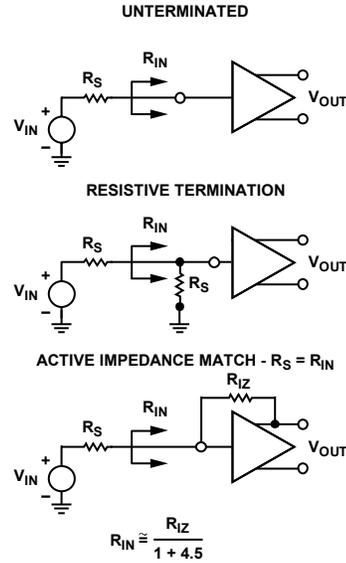
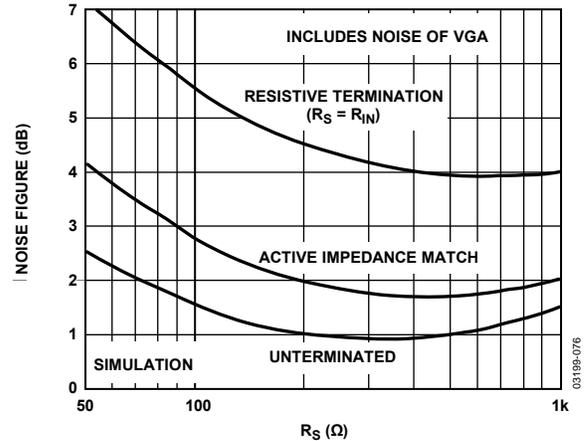
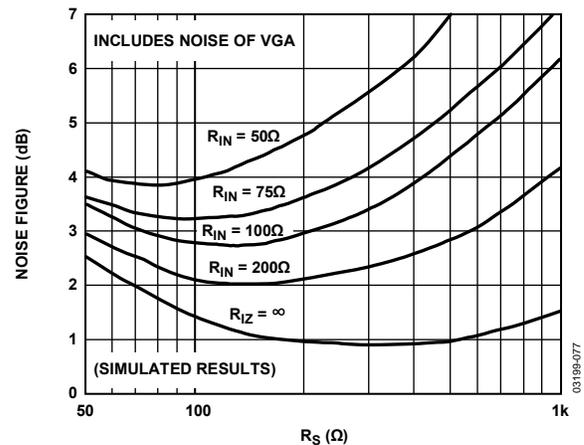

Figure 75. Input Configurations
Figure 76. Noise Figure vs.  $R_S$  for Resistive, Active Match, and Unterminated Inputs
Figure 77. Noise Figure vs.  $R_S$  for Various Fixed Values of  $R_{IN}$ , Actively Matched
The input-referred voltage noise sets an important limit on system performance. The short-circuit input voltage noise of the LNA is  $0.74\text{ nV}/\sqrt{\text{Hz}}$  or  $0.82\text{ nV}/\sqrt{\text{Hz}}$  (at maximum gain), including the VGA noise. The open-circuit current noise is  $2.5\text{ pA}/\sqrt{\text{Hz}}$ . These measurements, taken without a feedback resistor, provide the basis for calculating the input noise and noise figure performance of the configurations in Figure 75. Figure 76 and Figure 77 show simulations extracted from these results and the  $4.1\text{ dB}$  noise figure (NF) measurement with the input actively matched to a  $50\ \Omega$  source. Unterminated ( $R_{IZ} = \infty$ ) operation exhibits the lowest equivalent input noise and noise figure. Figure 76 shows the noise figure vs. source resistance, rising at low  $R_S$ , where the LNA voltage noise is large compared to the source noise, and again at high  $R_S$  due to current noise. The VGA input-referred voltage noise of  $2.7\text{ nV}/\sqrt{\text{Hz}}$  is included in all of the curves.
The primary purpose of input impedance matching is to improve the system transient response. With resistive termination, the input noise increases due to the thermal noise of the matching resistor and the increased contribution of the LNA input voltage noise generator. With active impedance matching, however, the contributions of both are smaller than they would be for resistive termination by a factor of  $1/(1 + \text{LNA Gain})$ . Figure 76 shows their relative NF performance. In this graph, the input impedance is swept with  $R_S$  to preserve the match at each point. The noise figures for a source impedance of  $50\ \Omega$  are 7.1 dB, 4.1 dB, and 2.5 dB, respectively, for the resistive, active, and unterminated configurations. The noise figures for  $200\ \Omega$  are 4.6 dB, 2.0 dB, and 1.0 dB, respectively.
Figure 77 is a plot of NF vs.  $R_S$  for various values of  $R_{IN}$ , which is helpful for design purposes. The plateau in the NF for actively matched inputs mitigates source impedance variations. For comparison purposes, a preamp with a gain of 19 dB and noise spectral density of  $1.0\ \text{nV}/\sqrt{\text{Hz}}$ , combined with a VGA with  $3.75\ \text{nV}/\sqrt{\text{Hz}}$ , yields a noise figure degradation of approximately 1.5 dB (for most input impedances), significantly worse than the AD8331/AD8332/AD8334 performance.